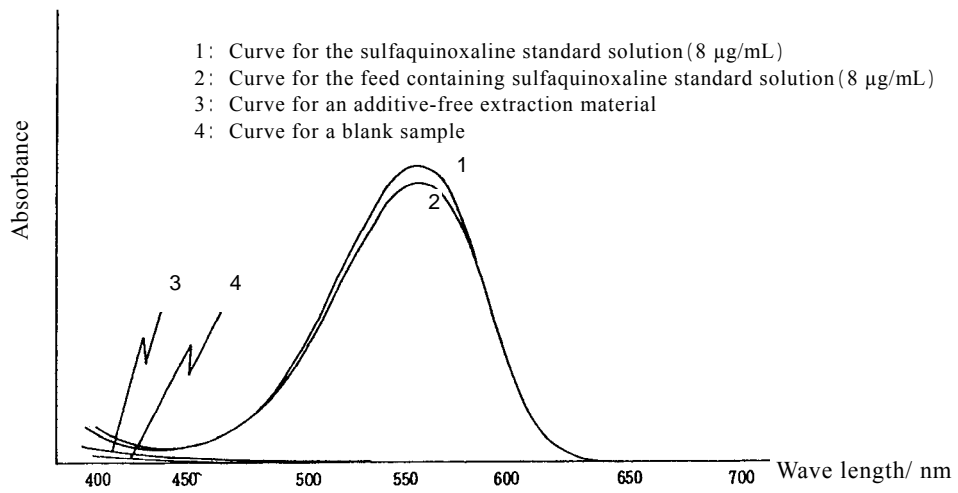

Fig. 8.1.10-6 Absorption curves of sulfaquinoxaline
- [7] Absorption curves of sulfaquinoxaline is shown in Fig. 8.1.10-6.